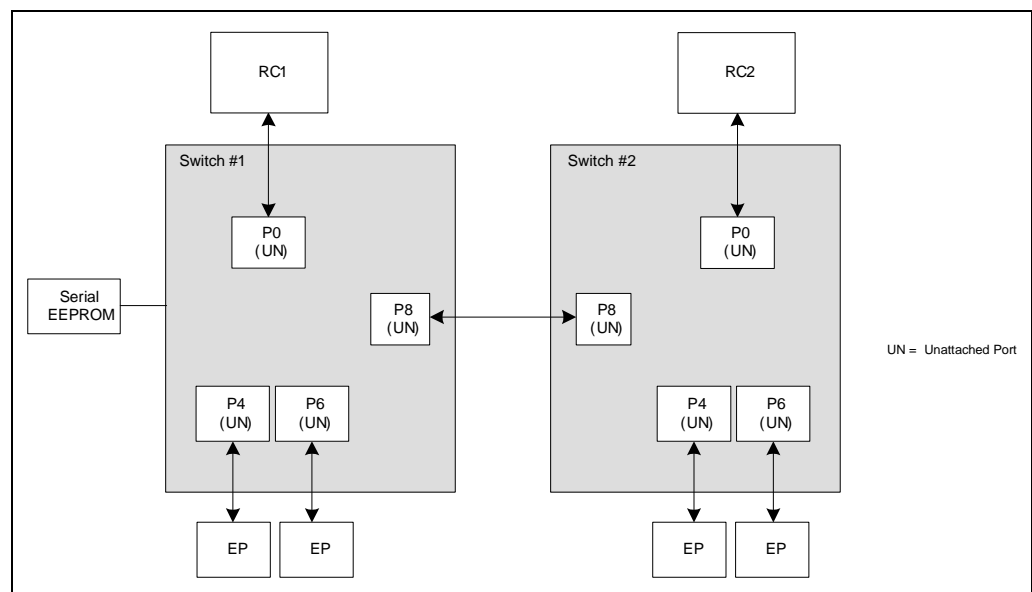

Figure 26.8 System Configuration immediately after Switch Fundamental Reset
- Prior to serial EEPROM initialization, the system is as shown in Figure 26.8.